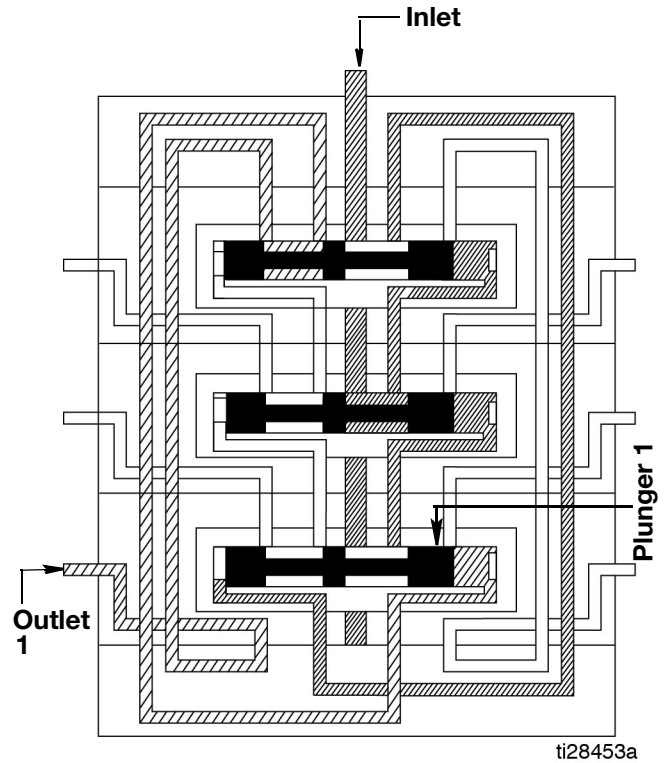

FIG. 10
3. Plunger 1 opens, delivering lubricant to Outlet 1 (FIG. 10).